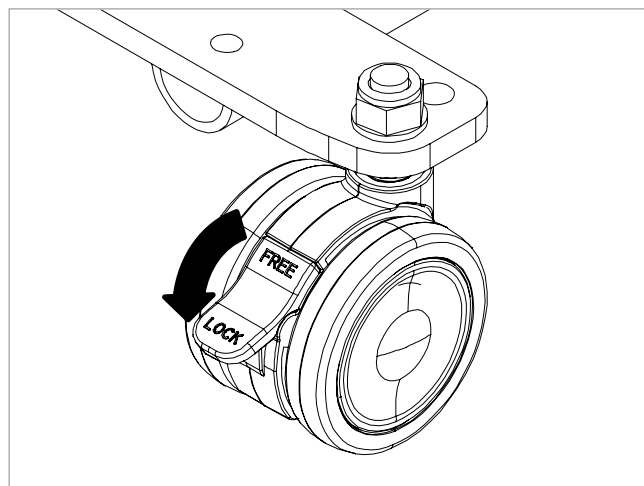

Figure 14.1
1. To lock the castor, press the lower part of the brake lever (marked lock) as indicated in Figure 14.1 until the lever locates in the new position.